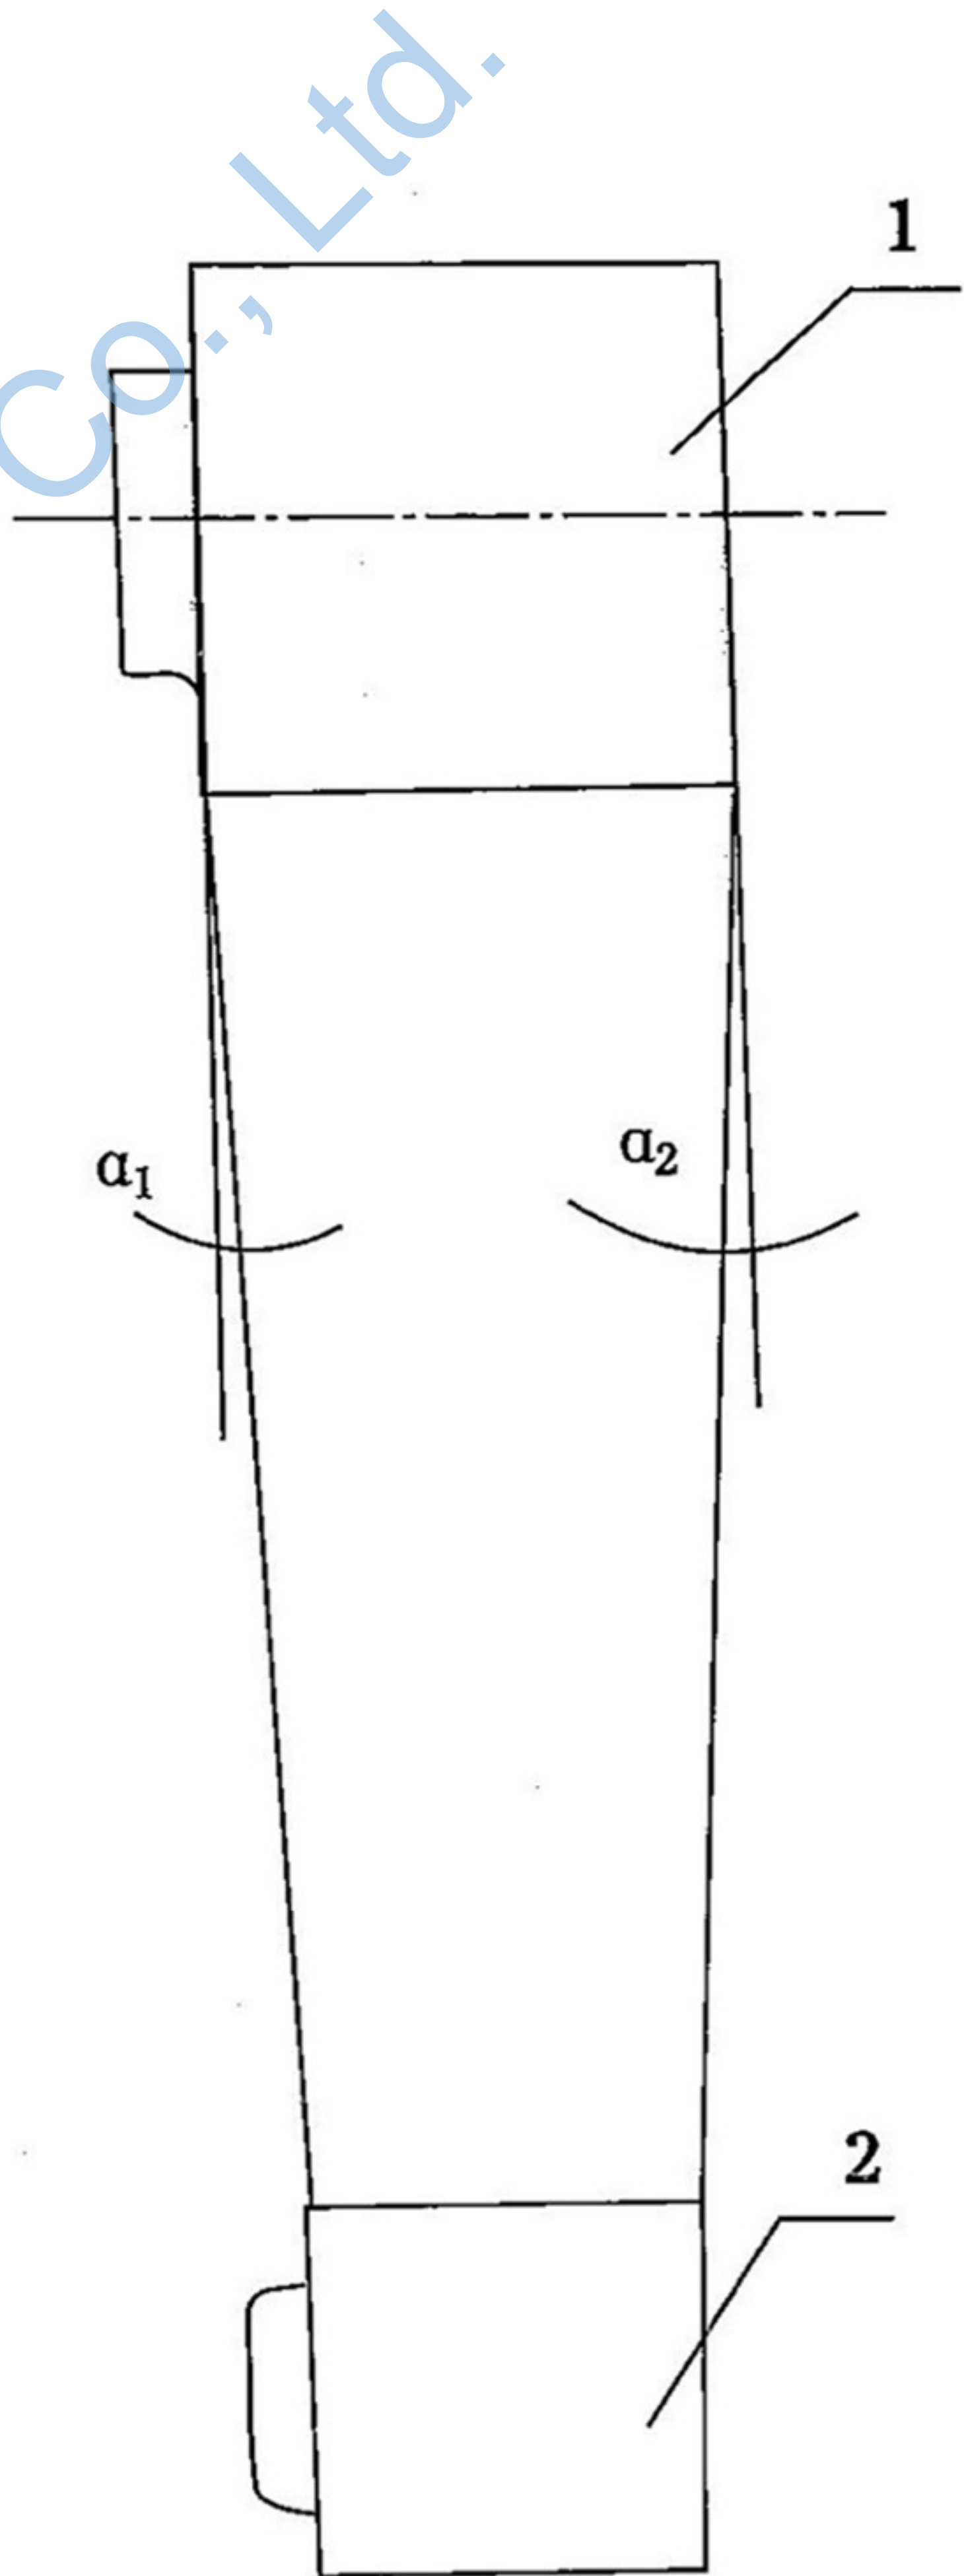

Figure 13
- (1) The pump must be installed on a solid foundation capable of supporting its full weight to eliminate vibration; tighten all anchor bolts.
- (2) Piping and valves must be supported separately. There is a gasket at the pump flange; when tightening the connecting bolts, note that on some pumps the metal liner may protrude above the flange. In such cases, do not overtighten the bolts to avoid damaging the gasket.
- (3) Turn the shaft by hand in the direction of pump rotation; the shaft should be able to drive the impeller without friction. If friction is present, adjust the impeller clearance.
- (4) Check the motor’s rotation direction to ensure the pump rotates in the direction indicated by the arrow marked on the pump body. Note that the pump must not rotate in the opposite direction; otherwise, the impeller threads may strip, resulting in pump damage.
- (5) For direct drive, the pump shaft and motor shaft must be precisely aligned. For belt drive, the pump shaft and motor shaft must be parallel, and the pulley position must be adjusted so that it is perpendicular to the V-belt to prevent severe vibration and wear. When using SPA-type and SPB-type pulley sets, adjust the pulleys to meet the $\alpha_1 = \alpha_2$ requirement shown in Figure 13.
- (6) A removable short pipe section should be installed at the pump suction inlet. Its length should be sufficient to allow the pump cover to be removed and wear parts to be replaced, facilitating pump maintenance. Refer to the external dimension drawings for each pump for the required length.
- (7) Shaft Seal Inspection: For pumps with a secondary impeller shaft seal, due to differences in the shutdown sealing structure, if an oil cup is installed on the pressure relief cover, grease must be applied through the oil cup; calcium-sodium-based grease is recommended.
Note: The units for R values in Table 1 are newtons; numbers 1 and 2 in Figure 13 refer to the pump and motor pulleys.